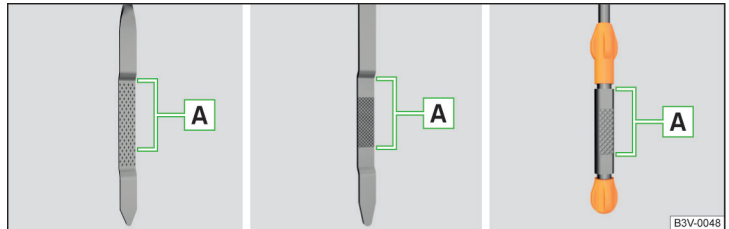

Fig. 219 Dipstick variants
The oil level must be in range **A** » Fig. 219. If the oil level is below the range **A**, refill the oil.
- The oil level must never be below the range **A** » Fig. 219 - risk of damage to the motor as well as the exhaust system.